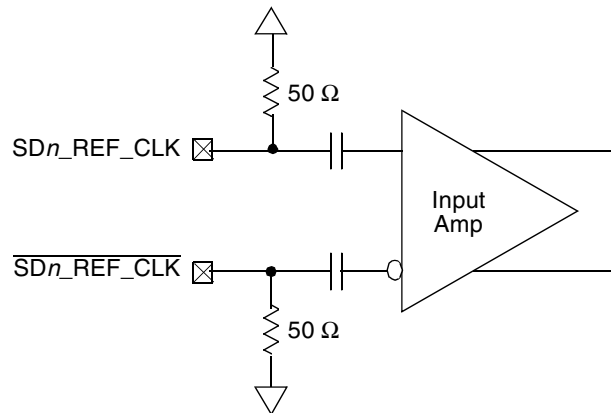

Figure 44. Receiver of SerDes Reference Clocks
Figure 44 shows a receiver reference diagram of the SerDes reference clocks. Characteristics are as follows:
- The SDn_REF_CLK and $\overline{SDn_REF_CLK}$ are internally AC-coupled differential inputs as shown in Figure 44. Each differential clock input (SDn_REF_CLK or $\overline{SDn_REF_CLK}$) has on-chip 50- Ω termination to SGND_SRDSn (xc0revss) followed by on-chip AC-coupling.